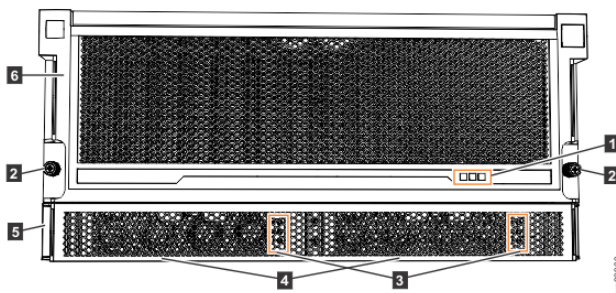

Figure 57. Features on the front of the 5U expansion enclosure
Important: Before you connect the power cables to the rear of the enclosure, always check that the expansion enclosure is secured in the rack. If needed, tighten the thumbscrews on the front of the enclosure (2 in Figure 57 on page 92) to ensure that the enclosure drawer does not roll open.
The 5U expansion enclosure has two power supply units (PSUs) that are accessible from the front of the enclosure (4 in Figure 57 on page 92). As the figure also shows, the PSUs are covered by the 1U fascia (5).
On the front of the enclosure, the indicators on the front display panel and each PSU (1 and 9 in Figure 57 on page 92) are also lit when the power is connected. See “High density expansion enclosure LEDs and indicators” on page 201 for information about the status that is provided by the indicators.